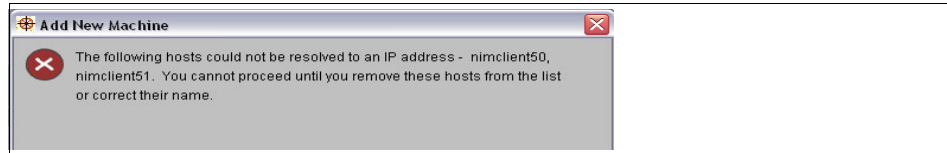

Figure 3-48 Error message when NIM clients' hostnames cannot be resolved
**Note:** The hostnames of the NIM clients you want to add must be resolvable and preferably exist in the `/etc/hostname` file. If these hostnames are not defined in the `/etc/hostname` files, you will receive an error message as shown in Figure 3-48.